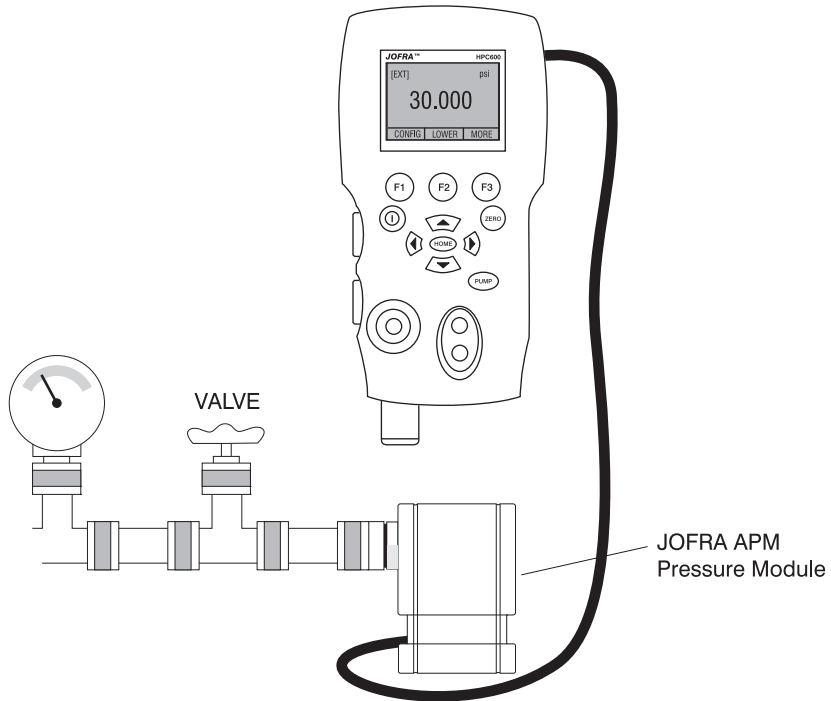

Figure 5
1. The JOFRA HPC600 is supplied with a special low volume calibration hose kit to facilitate faster pumping to pressure and quick pressure stabilization. the kit also comes with the required “quick-fit” hose connectors and a BSP adapter for non-NPT applications. It is highly recommended that this type of hose is used to achieve the best performance of the product. Once the fittings are installed and the calibrator is connected to the unit under test (UUT) the calibrator is ready for use. Figure 5 shows a typical setup.